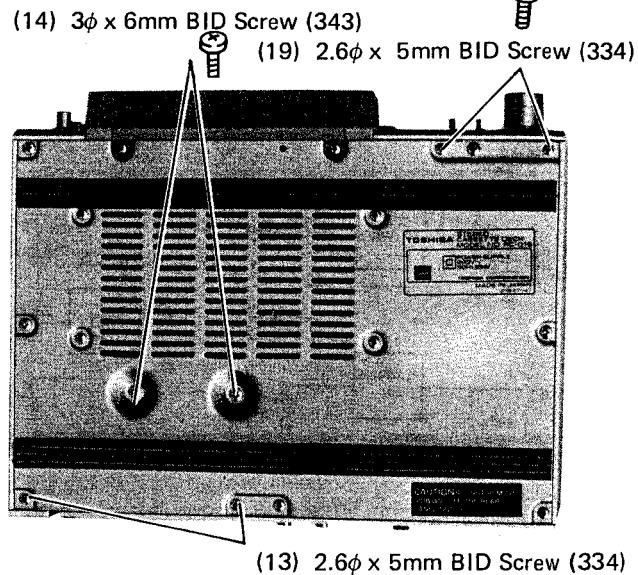

Figure 24.
1. Remove one screw (12) and four screws (13) and (14) holding the bracket for the transformer as shown in Figure 24 and 25 and the bracket can be removed.
1. After removal of the power transformer mounting bracket, remove two screws (19) and one screw (20) as shown in Figure 24 and 26. The type mechanism assembly and the main chassis assembly can be separated as illustrated with a dotted line. (See Figure 26.) This is capable of checking and replacing parts on the Main P.C. Board and the logic P.C. Board.